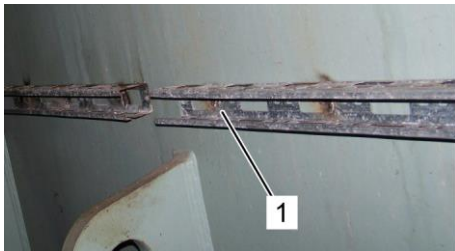

Fig. 88: Cable trays on engine block
1. Lay cables through cable trays (Fig.88/1) to the Indication unit.